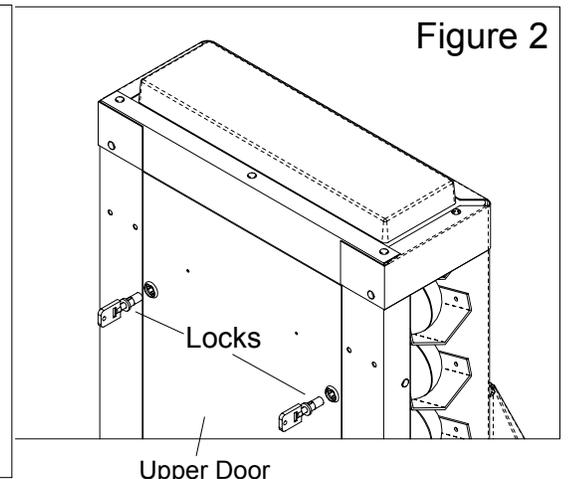
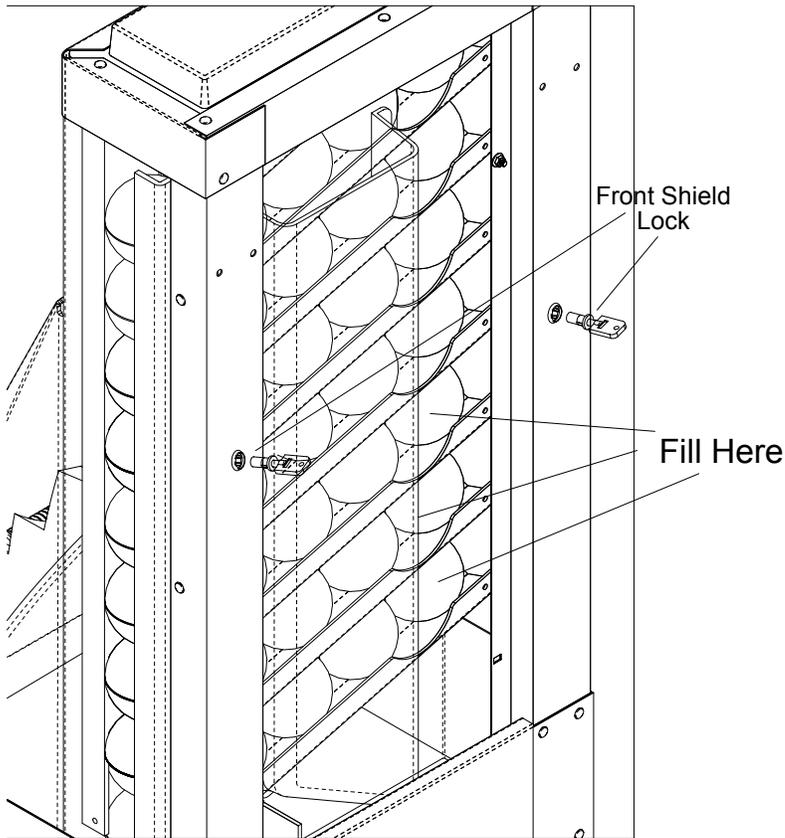
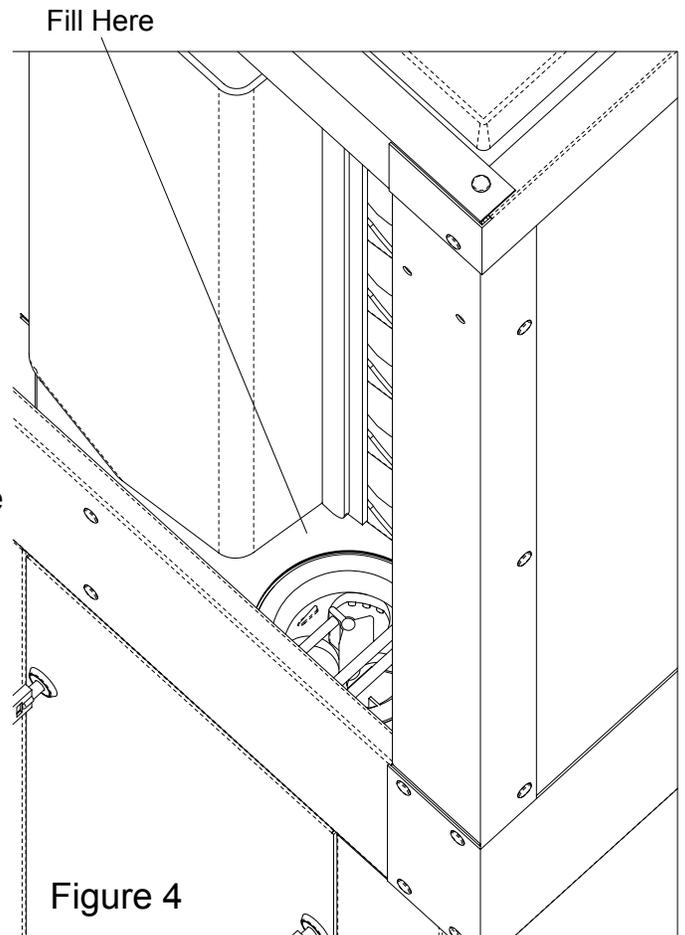

Figure 2
Figure 3
Figure 4
3. Load Small Prize and Grand Prize products in the rear by removing locks in upper back door (see figure 2). Load Grand Prize capsules one at a time starting with the lowest row, working up to top row (see figure 3). Load Small Prize product by dumping product into the Small Prize hopper (see figure 4). Utilize extra Small Prize product storage **if necessary** by dumping product at the top of the extra storage column (see figure 5) after Small Prize hopper has been filled. After all product is filled, replace upper back door.
4. Set up your Grand Prize product displays by removing the front shield from machine by unscrewing the security screws (using bit) located on each side of the unit (see figure 6) and removing the front shield locks located in the rear left and right pillars (see figure 3). Attach displays with velcro (found in coin cash box).
6. Replace front shield with top edge positioned behind top portion of display shelf (see figure 8). Replace security screws (figure 6) and front shield locks (figure 3).
1. Remove the front shield from machine by unscrewing the security screws (using spanner security bit) located on each side of the unit (see figure 6) and removing the locks located in the center rear left and right pillars (see figure 3).